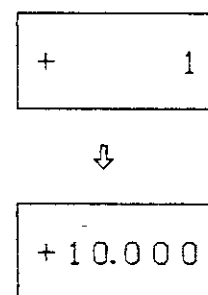

Fig. 22
4. Press the STORE switch. At this point, the setting condition will be stored in address 1, and as shown in Fig. 22, address 1 will appear in the display for 0.5 seconds.